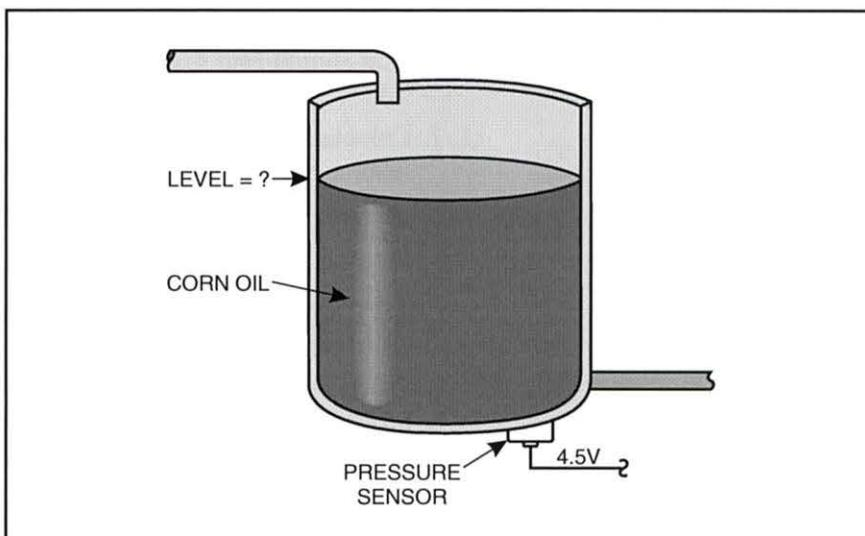

Figure 39. Level System
10. Determine the level in the tank shown in figure 39 if the output signal from the pressure sensor is 4.5 V. The sensor has a 0-7 psi (0-48.26 kPa) input signal range and a 1-5 V output signal range.